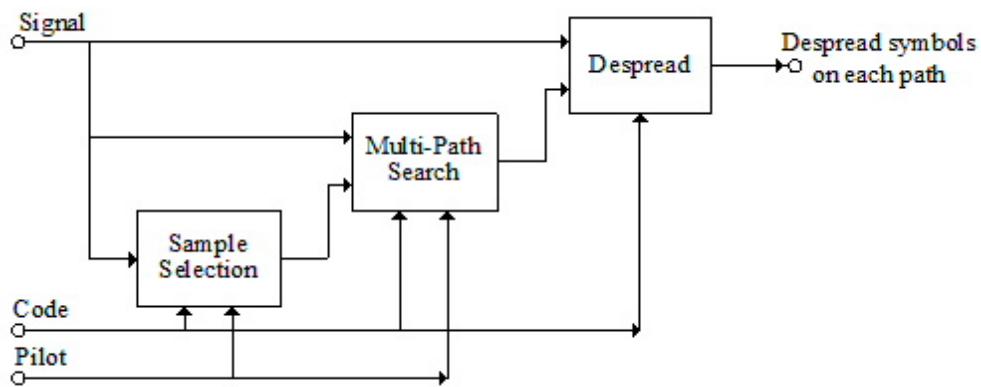

Fig. 1 Block diagram of matched filter
1. The matched filter model can be used to resolve the received multi-path signal and despread symbols on each path in DS/CDMA systems. The block diagram of the matched filter is shown in Fig.1. If Method is set to Pilot Assisted {0}, the received signal is despread using the estimated multi-path delays (i.e., the output of the Multi-Path Search). If Method is set to Perfect {1}, the received signal is despread using the given parameter values  $D_0 \sim D_{L-1}$ .